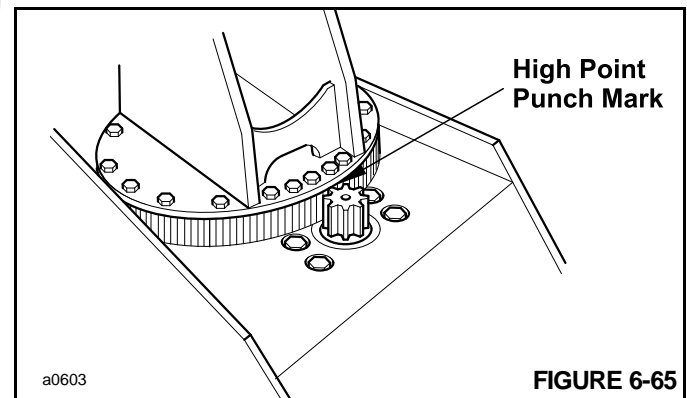

FIGURE 6-65
2. Start the engine and rotate the mast until the high point on the swing gear is in alignment with the pinion. The high point is punch-marked on the edge of the mast base plate (Figure 6-65).